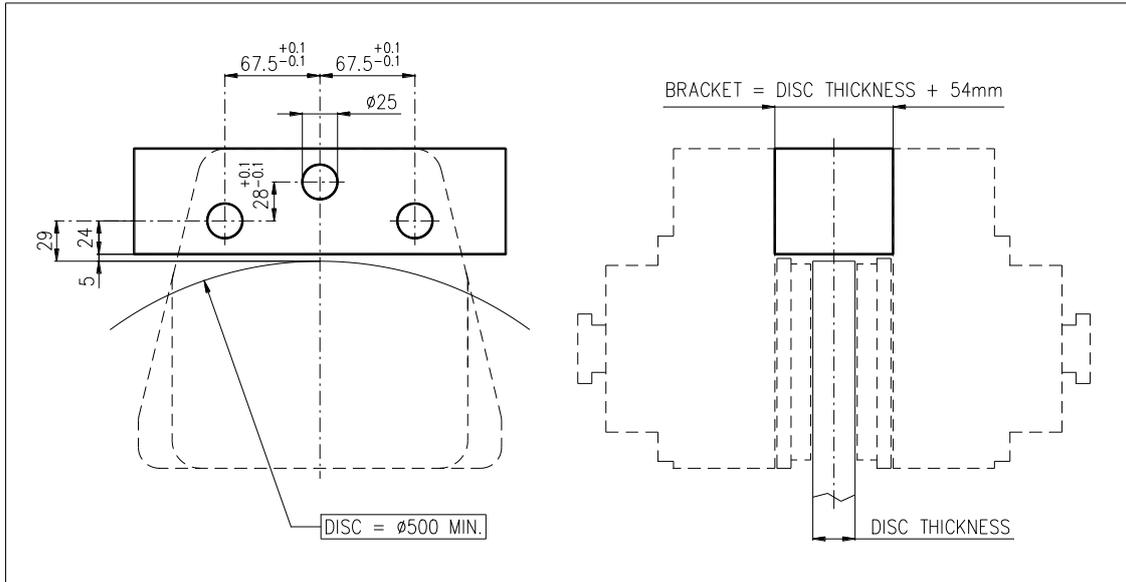

Figure 1
1. The ID 1500N brake must be installed on a bracket having the same thickness as the disc + 54 mm (Figure 1). The fixed part which is to support the brake must withstand a tangential force of 55000 [N].